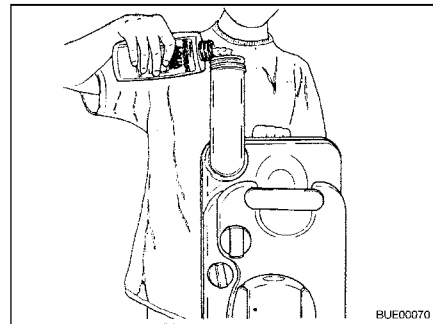

Fig. 271 Filling with sanitary liquid
- Fill the stated amount of sanitary liquid into the sewage tank (Fig. 271).